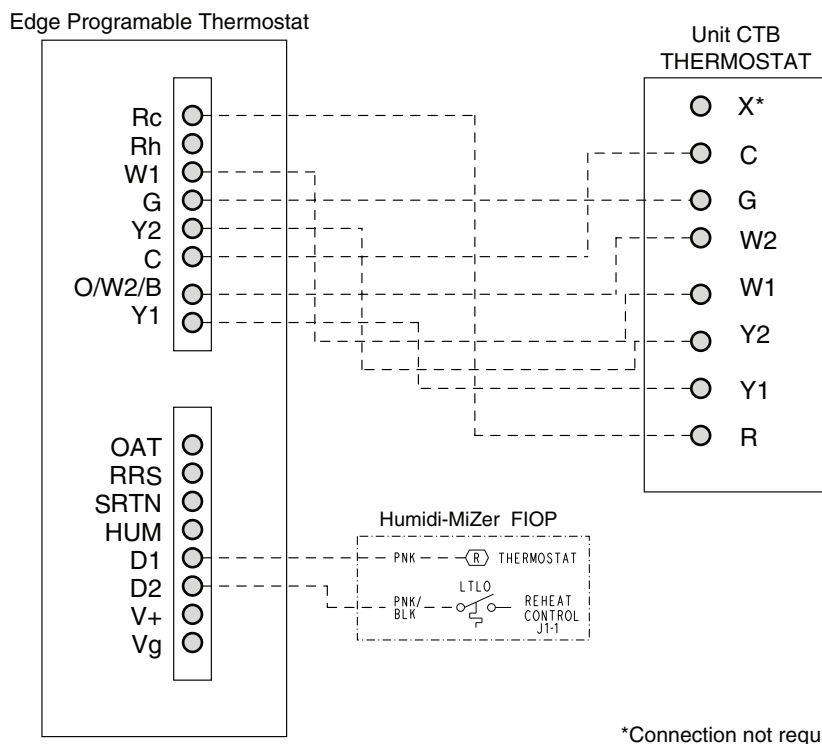

Fig. 52 — Typical Rooftop Unit with Humidi-MiZer Adaptive Dehumidification System with Edge® Pro Thermostat Device
3. The Thermidistat has dry contacts at terminals D1 and D2 for dehumidification operation (see Fig. 52). The dry contacts must be wired between CTB terminal R and the PNK/BLK lead to the LTLO switch with field-supplied wire nuts. Refer to the installation instructions included with the Carrier Edge Thermidistat device for more information.